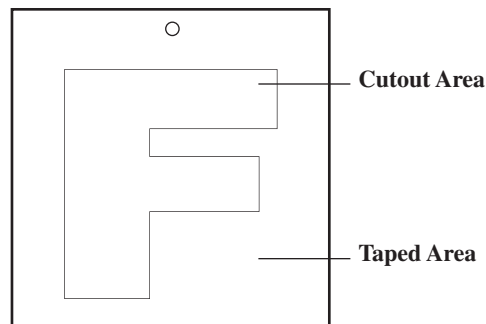

Figure 1.
2. Draw a simple design (such as your initials or name) on the masking tape with a pencil. Designs may be drawn on both sides of the piece of galvanized iron if desired. The design that is drawn will become the copper-colored part of the ornament. See Figure 1.
3. Use a scalpel to cut along the pencil marks. Remove the masking tape *inside* the drawing only so that the design is uncovered. See Figure 1.